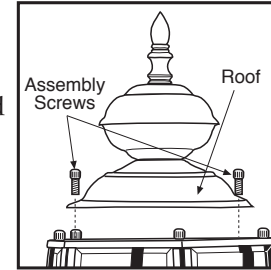

Figure 1
- For two screw and multiple screw assembly roofs, remove assembly screws on roof (or underneath roof) and insert bulb(s). Reattach roof. (see figure 1 and 2)